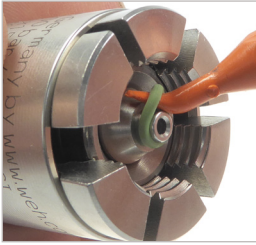

Figure 10
- ▶ Use the WEH® O-ring picker to lift the front seal (Pos. 7) and remove it from the recess (*Figure 10*).